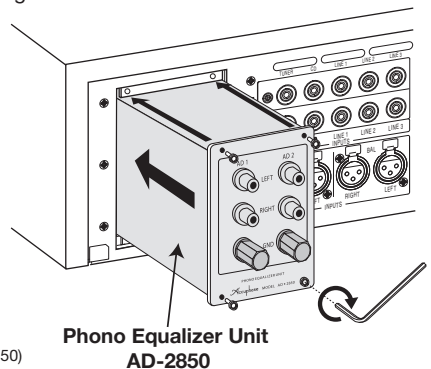

Fig. 2
- 3 Slide the AD-2850 into the preamplifier along the two guide rails on both sides (see Fig. 2). When you feel a certain resistance, give the AD-2850 a slight push until the connector is fully plugged in. When the AD-2850 is flush with the rear panel, it is inserted correctly.